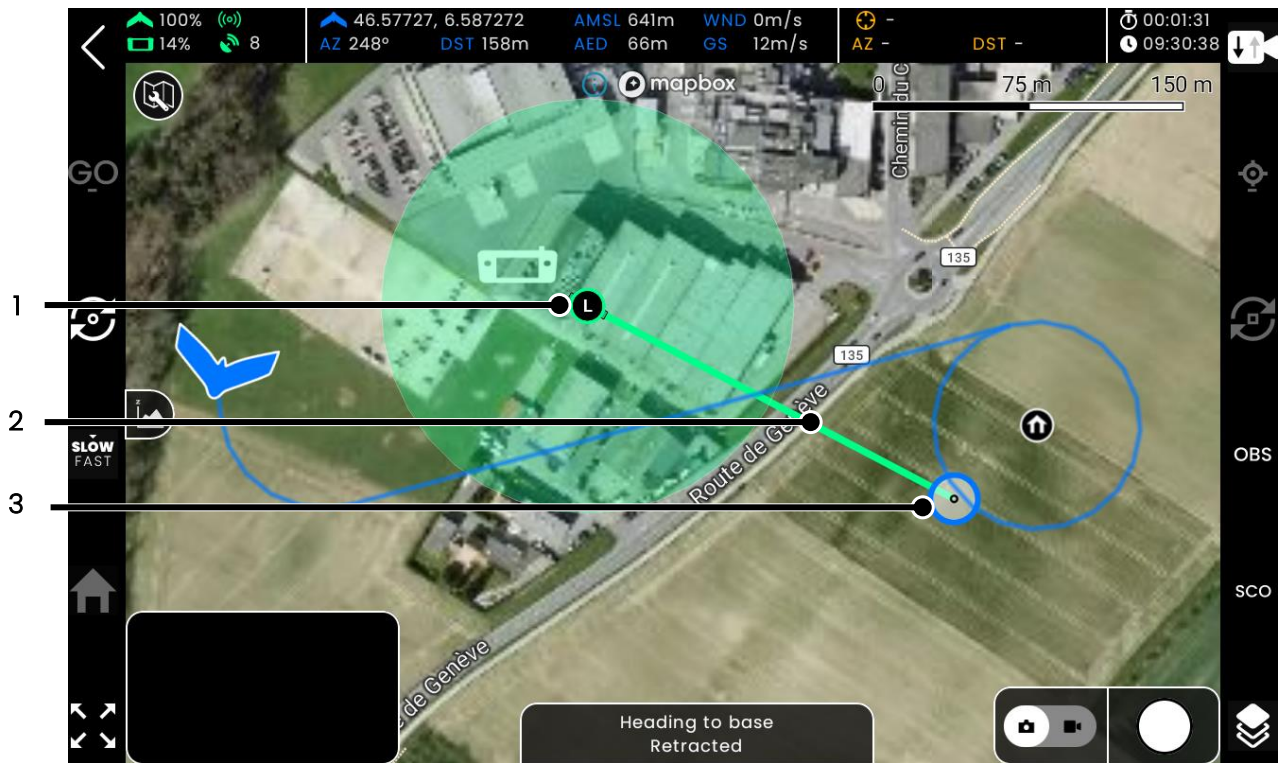

Figure 3-75 Landing path management
To move a waypoint/POI to a given latitude/longitude or MGRS location, press and hold it until the tool icons (3) from Figure 3-75 appears. Then press on  to display the waypoint location editor and enter the desired coordinates.